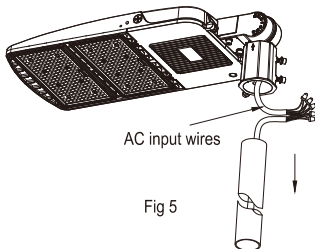

Fig 5
Step 5 . Connect the fixture's AC input wires to pole-wires with connectors .L to L(black), N to N(White), PE to PE (Green). If need to connect dimming wires from the pile to fixture, please also use the connector to connect Dim+(purple) to Dim+ (purple), Dim-(pink) to Dim-(pink), as fig 5,